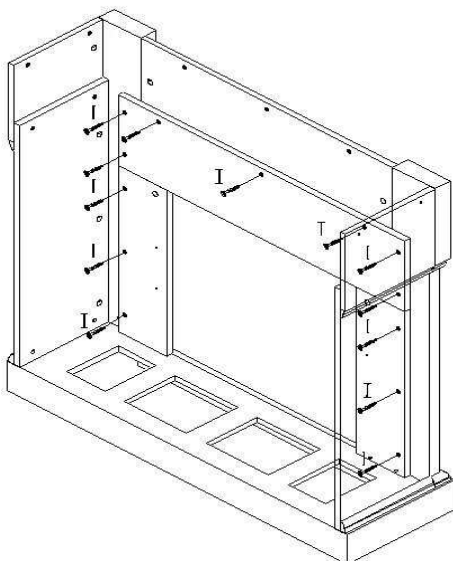

Figure 6
AFTER FINISHED FIGURE 6, THEN INSERT (I) WOOD SCREW INTO THE RELATED HOLES TO CONNECT WITH TOP PANEL, USE SCREWDRIVER TO LOCK IT TIGHTLY.